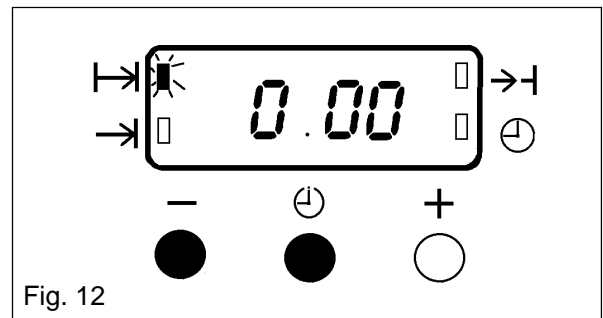

Fig. 12
- i) To cancel an automatic programme press the Selector Control button until the Cook Time indicator () flashes. Press the decrease control (-) until the display reads 0.00 as Fig.12.